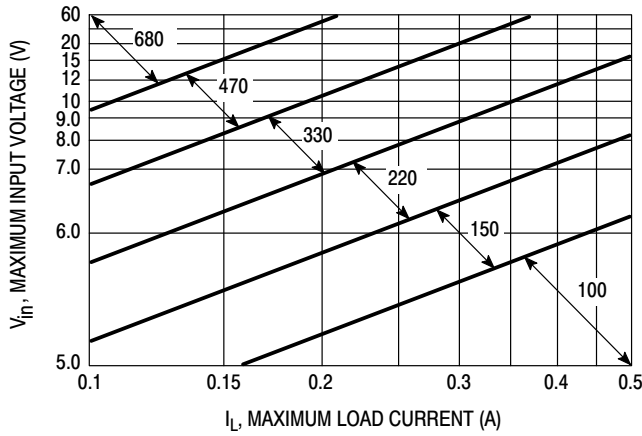
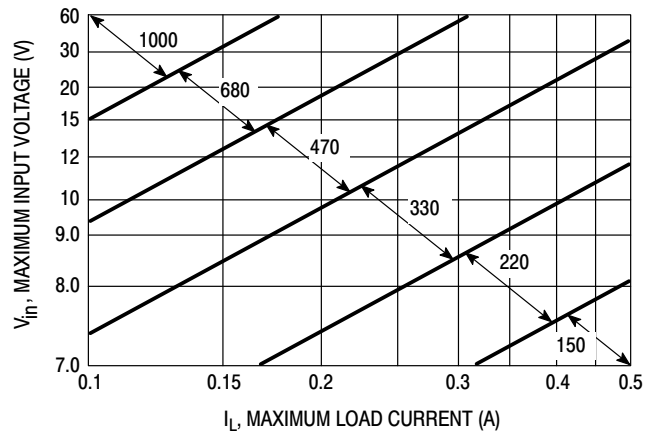

Figure 19. LM2574-3.3
Figure 20. LM2574-5
4. Inductor Selection (L1) A. According to the required working conditions, select the correct inductor value using the selection guide from Figures 19 to 23. B. From the appropriate inductor selection guide, identify the inductance region intersected by the Maximum Input Voltage line and the Maximum Load Current line. Each region is identified by an inductance value and an inductor code. C. Select an appropriate inductor from the several different manufacturers part numbers listed in Table 2. The designer must realize that the inductor current rating must be higher than the maximum peak current flowing through the inductor. This maximum peak current can be calculated as follows: $I_{p(max)} = I_{Load(max)} + \frac{(V_{in} - V_{out})t_{on}}{2L}$ where t_{on} is the “on” time of the power switch and $t_{on} = \frac{V_{out}}{V_{in}} \times \frac{1.0}{f_{osc}}$ For additional information about the inductor, see the inductor section in the “EXTERNAL COMPONENTS” section of this data sheet.	4. Inductor Selection (L1) A. Use the inductor selection guide shown in Figure 20. B. From the selection guide, the inductance area intersected by the 15 V line and 0.4 A line is 330. C. Inductor value required is 330 μ H. From Table 2, choose an inductor from any of the listed manufacturers.
To simplify the inductor selection process, an inductor selection guide for the LM2574 regulator was added to this data sheet (Figures 19 through 23). This guide assumes that the regulator is operating in the continuous mode, and selects an inductor that will allow a peak-to-peak inductor ripple current to be a certain percentage of the maximum design load current. This percentage is allowed to change as different design load currents are selected. For light loads (less than approximately 0.2 A) it may be desirable to operate the regulator in the discontinuous mode, because the inductor value and size can be kept relatively low. Consequently, the percentage of inductor peak-to-peak